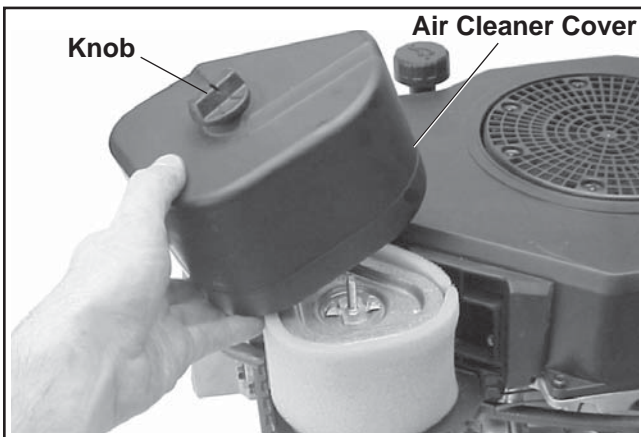

Figure 9-6. Removing Air Cleaner Cover.
1. Loosen the knob and remove the air cleaner cover. See Figure 9-6.